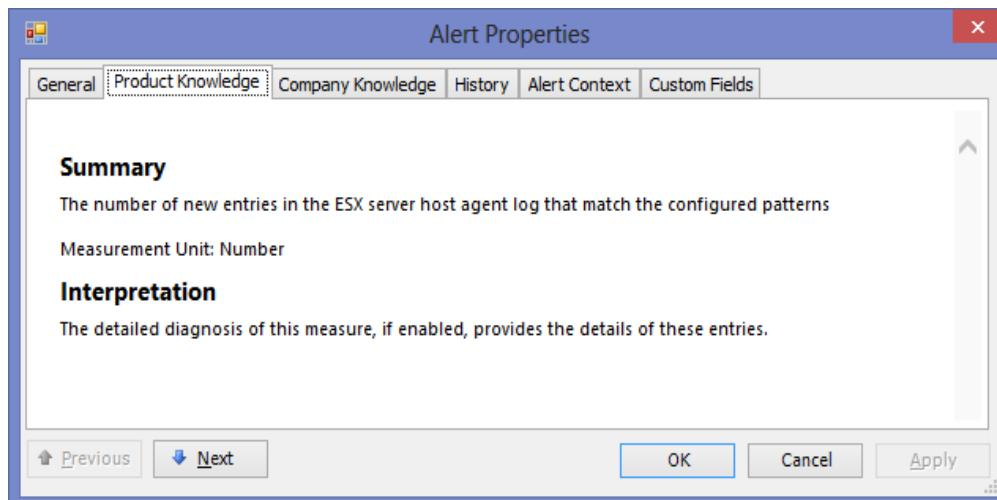

Figure 4.4: The description of a measure reported by a test
4. To understand a problem better, click on the **View additional knowledge** link and tap the knowledge base of the eG Enterprise system. The **Product Knowledge** tab page of the **Alert Properties** window will automatically open displaying the details related to the measure on which the selected alert was raised. Figure 4.4 depicts a sample **Alert Properties** window displaying the details of the **Number of system errors** measure.